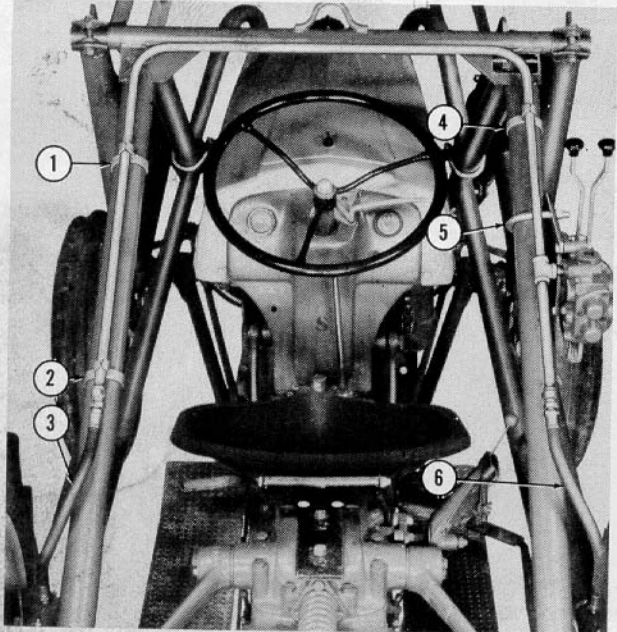
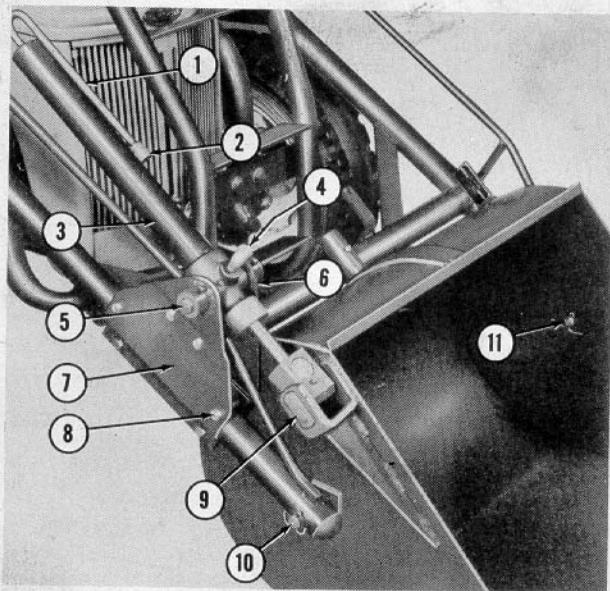
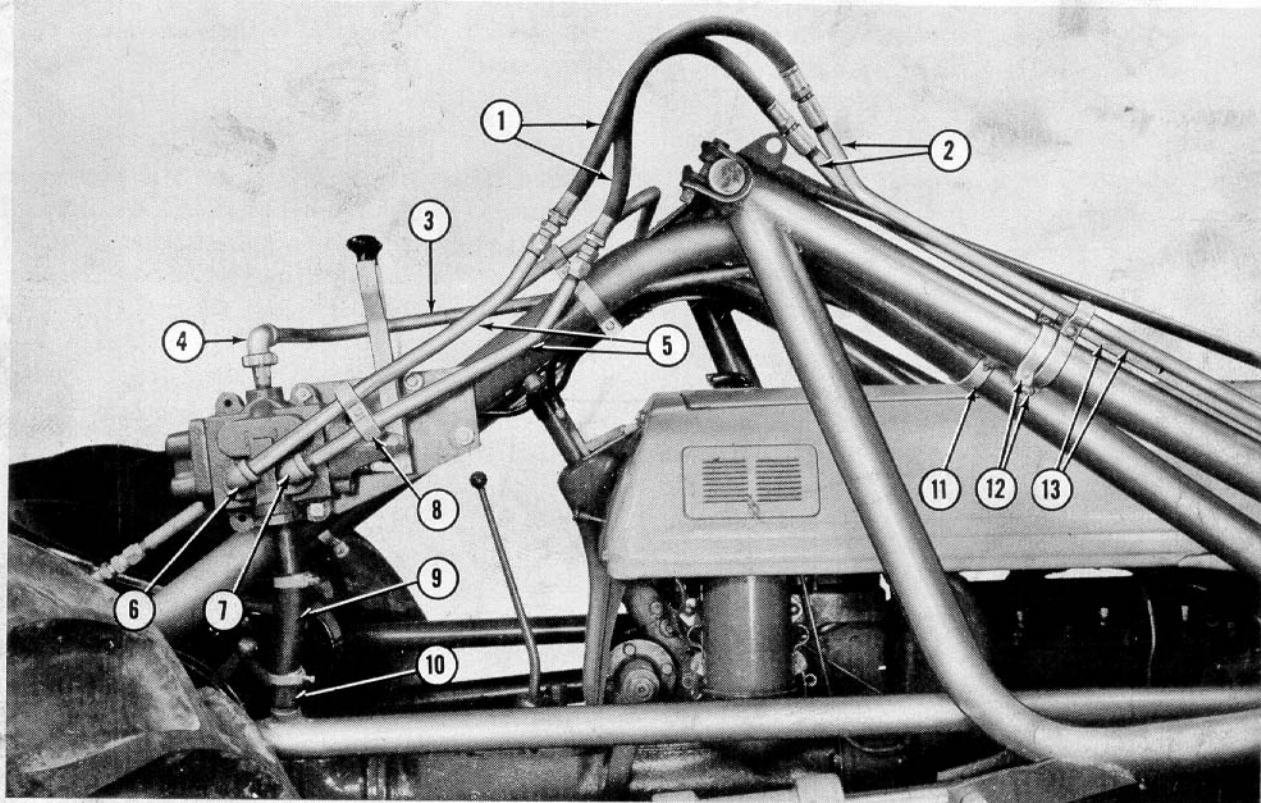
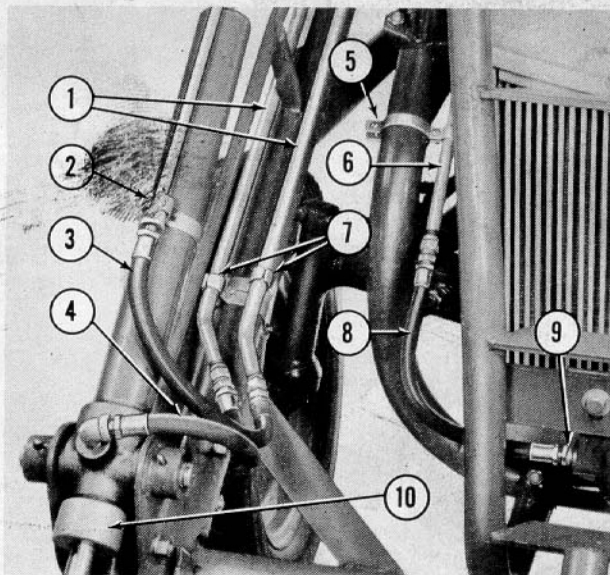

Figure 25
Figure 26
Figure 27
Figure 28
6. Mount the equalizer pipe and control valve on the loader main frame as shown in Figure 25.
- a. Position the assembly in place as shown and attach the control valve support plate to the loader frame with the U-bolt (5). Leave the nuts finger tight at this time.
- b. Place the clamps (1), (2) and (4) in position on the loader frame and on the equalizer pipe and tighten the clamps just enough to hold the assembly in place.
- c. Next, install the two hose sections (3) and (6) as shown and tighten the joints securely. Turn the hose fitting into the cylinders first.
7. Mount the bucket control hydraulic cylinder on the loader lift arm assembly as follows: See Figure 26.
- a. Turn the reducer (2) onto the pipe (1) and then turn the pipe (1) into the end of the cylinder (3) as shown.
- b. Turn the street ell (4) into the cylinder.
- c. Turn the two $\frac{3}{8}$ inch street ells (6) and (7) into the control valve.
- d. Take the coupling (4) apart and turn the lower part into the control valve and the upper part onto the end of the high pressure pipe (3).
- e. Place the high pressure pipe (3) in its approximate position and support it with the clamp (11), Figure 27, and (5), Figure 28. Tighten the clamps just enough to hold the pipe.
- f. Assemble the coupling as shown at (4), Figure 27.
- g. Turn the two pipes (5), Figure 27, into the street ells (6) and (7) as shown.
- h. Turn the two couplings (2) on the end of the two pipes (13), Figure 27, and mount the two pipes (13) in place. Support them with the two clamps (12), Figure 27, and (7), Figure 28.
- i. Attach the two hose sections (1), Figure 27, as shown and secure the two pipes (5) in place with the clamp (8).
- c. Attach the cylinder support plates (6) and (7) to the loader lift arm as shown. Leave the bolts loose at this time. Bolt (8) has no nut. It turns into a threaded boss on the inside of the support plate (6).
- d. Position the cylinder as shown and secure it with the two pivot pins and cotter pins. See (5), Figure 26.
8. Attach the bucket to the lift arms with the pins and cotter pins as shown at (10) and (11), Figure 26.
9. Attach the cylinder ram to the bucket with the pivot pin and cap screw as shown at (9), Figure 26.
10. Attach the hydraulic lines to the control valve as follows: See Figure 27.
- a. Turn the $\frac{3}{4}$ x 5 inch nipple (10) into the outlet in the loader frame.
- b. Fit the hose section (9) and clamps in place and tighten the clamps.
11. Attach the hydraulic lines to the bucket control cylinder and pump as follows: See Figure 28.
- a. Attach the pipe clamp (2) and the hose sections (3) and (4) to the pipes (1) as shown.
- b. Attach the hose section (8) to the hydraulic pump as shown at (9) and to the high pressure pipe (6), as shown.
Lubricate thoroughly when the loader is new and every eight hours of operation. Also oil the two pins which support the bucket control cylinder. See (5), Figure 26.
Keep the cap (9), Figure 7, on each cylinder tightened hand tight, and the cap (10), Figure 28, on the bucket control cylinder.